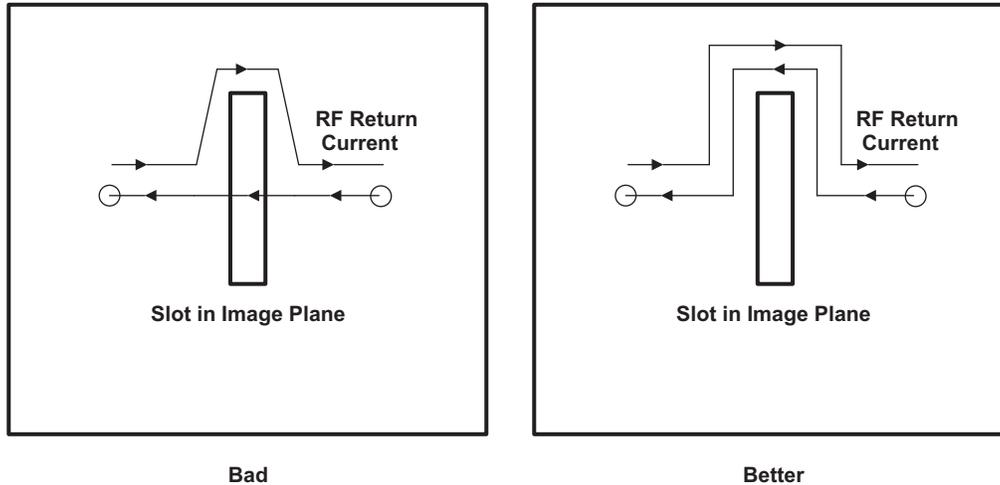

图 8-38. Do Not Violate Image Planes
- Avoid image plane violations. Traces that route over a slot in an image plane results in a possible RF return loop, as shown in 图 8-38.